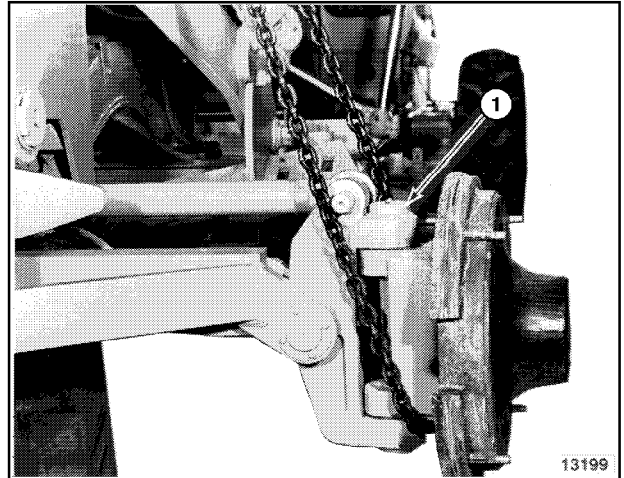

Figure 53
1. Sling front axle assembly (1, Figure 53) with chains and overhead hoist and lift into place under grader frame.